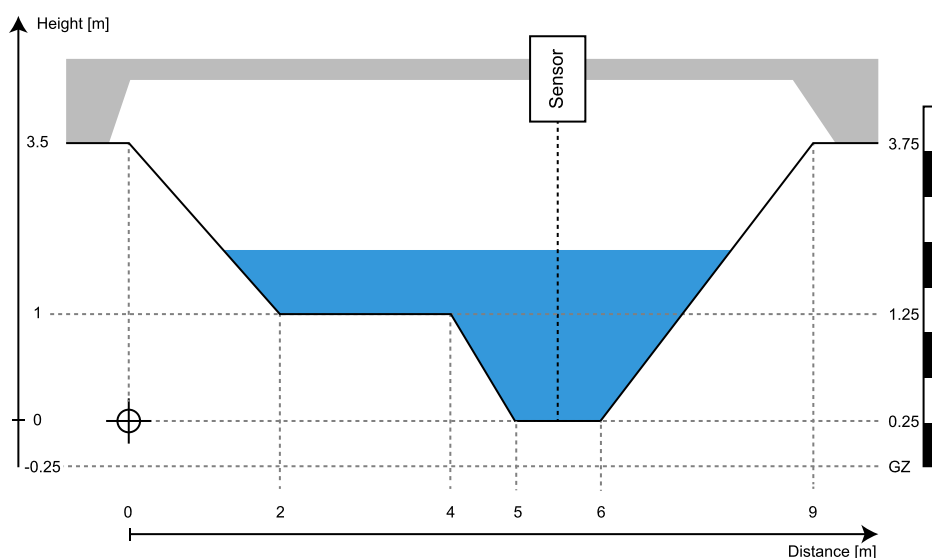

Figure 11 Gauge zero (GZ) of a gauge plate in reference to a channel profile
If a water level measurement is already present at the measurement site, i.e. gauge plate or gauge sensor, it is recommended to use the gauge zero (GZ) of the existing measurement as the reference level. This level is usually unique and defined permanently. Moreover, consistency in the existing water level measurement and the SQ-R measurement simplifies interpretation. As illustrated in Figure 11 the level of the gauge zero has to be known in the reference system.
In the example shown in Figure 11 gauge zero is at -0.25 m in the reference coordinate system of the cross-Section H.